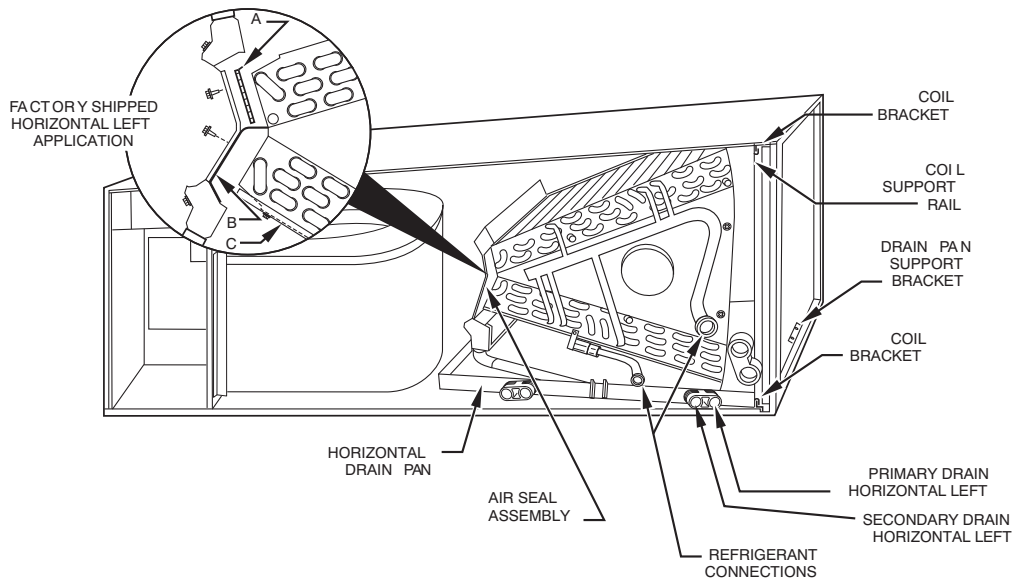

Fig. 4 – A-Coil in Horizontal-Left Application (Factory Ready)
2. When suspending unit from ceiling dimples in casing indicate proper location of screws for mounting metal support straps. (See Fig. 4.)